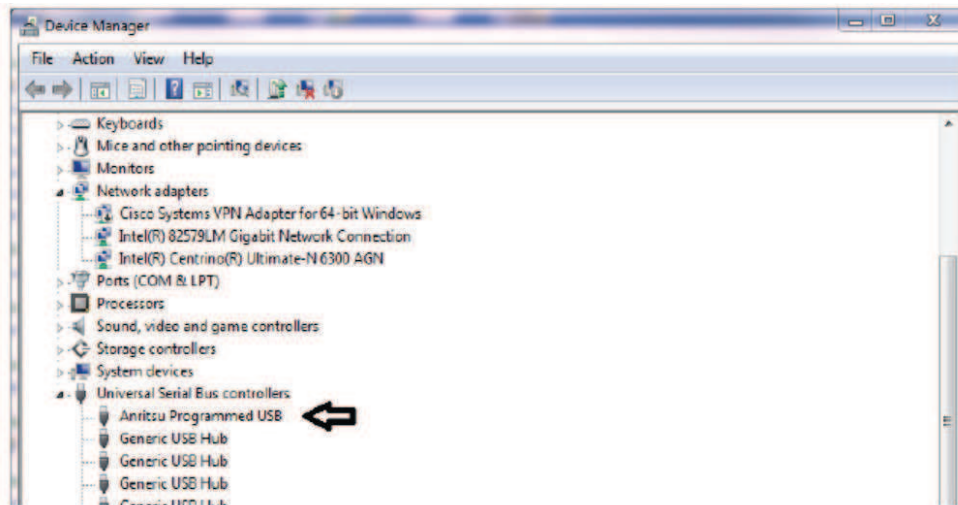

Figure 4-1. Universal Serial Bus Controller
5. Confirm that the Anritsu USB driver has been installed by checking the Windows Device Manager under the Universal Serial Bus Controllers. See Figure 4-1.